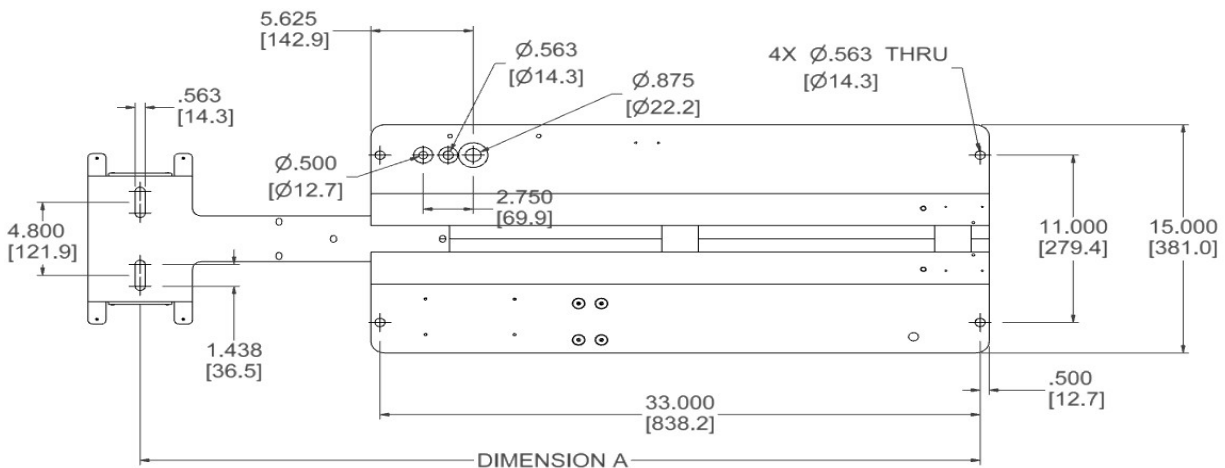

Figure 5-3 Night Scan Chief Installation Dimensions (Bottom View) Inches [mm]
1. Reference Figure 5-3 and Table 5-3 for standard mounting hole locations. These locations will vary based on which system you are using. Measure the hole locations to confirm or use the unit as a template to mark before drilling. Drill six $\varnothing 9/16$ inch (or $\varnothing 14$ mm) mounting holes into the vehicle mounting structure in the mounting locations. There are four holes for the base, and two holes for the saddle. Drill appropriate holes for cable installation and remove any sharp edges that might damage the cables.
Model	Dimension A Value (from Figure 5-3)